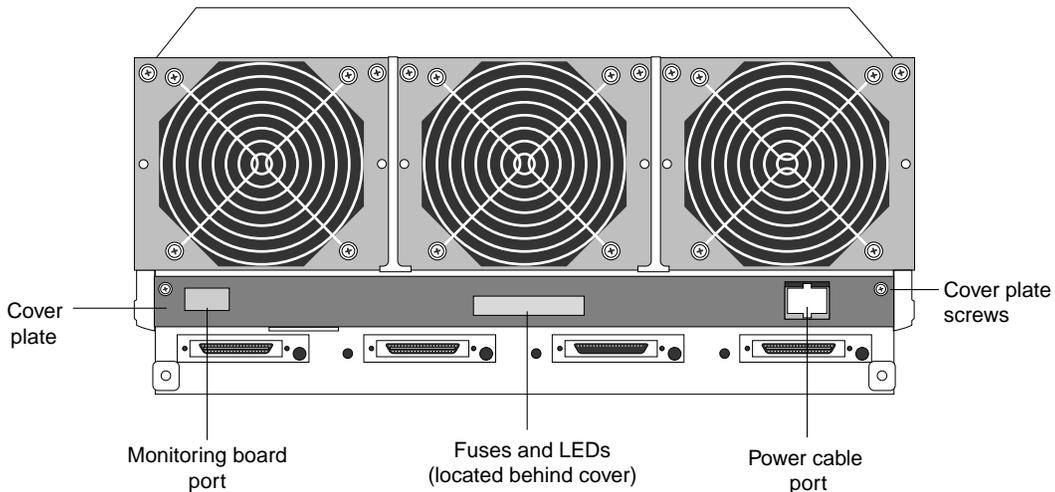

Figure 21. Drawer fuses and LEDs location (HDDA back view)
2. Move to the back of the storage subsystem and remove the screws securing the rear cover plate. Check the fuse LEDs on the back of the drawer (Figure 21).
12. The cover plate on the back of the HDDA should be detached if you followed step 2 in “To identify a blown fuse.” If it is attached, use a #1 Phillips screwdriver to release it by removing the cover plate screws (Figure 21 on page 19).